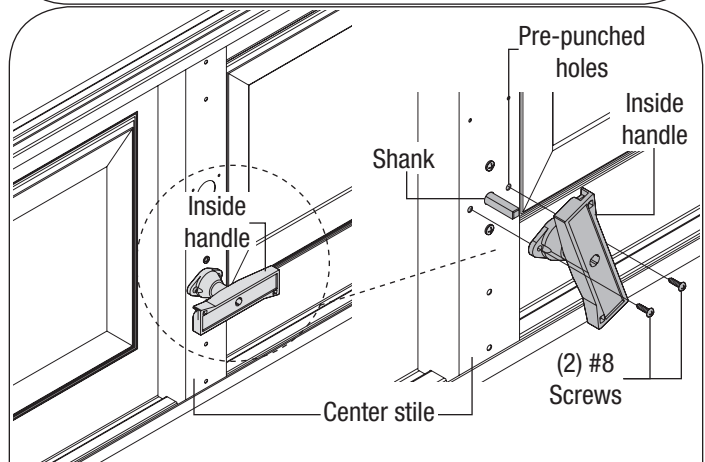

FIG. 6
8000/8100/8200 DOORS, (SEE FIG. 6): Position the inside handle over the shank of the outside handle, flush against the center stile. Align the holes in the handle with the pre-punched holes in the center stile, then turn the handle clockwise to secure with (2) #8 screws.